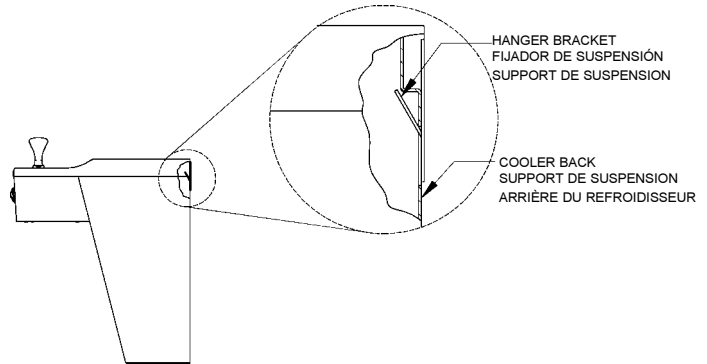

FIG. 4
- Hang the cooler on the hanger bracket. Be certain the hanger bracket is engaged properly in the slots on the cooler back as shown in Fig. 4.
- Loosen the two (2) screws holding the lower front panel at the bottom of cooler base and two (2) screws at the top. Remove the front panel and set aside.